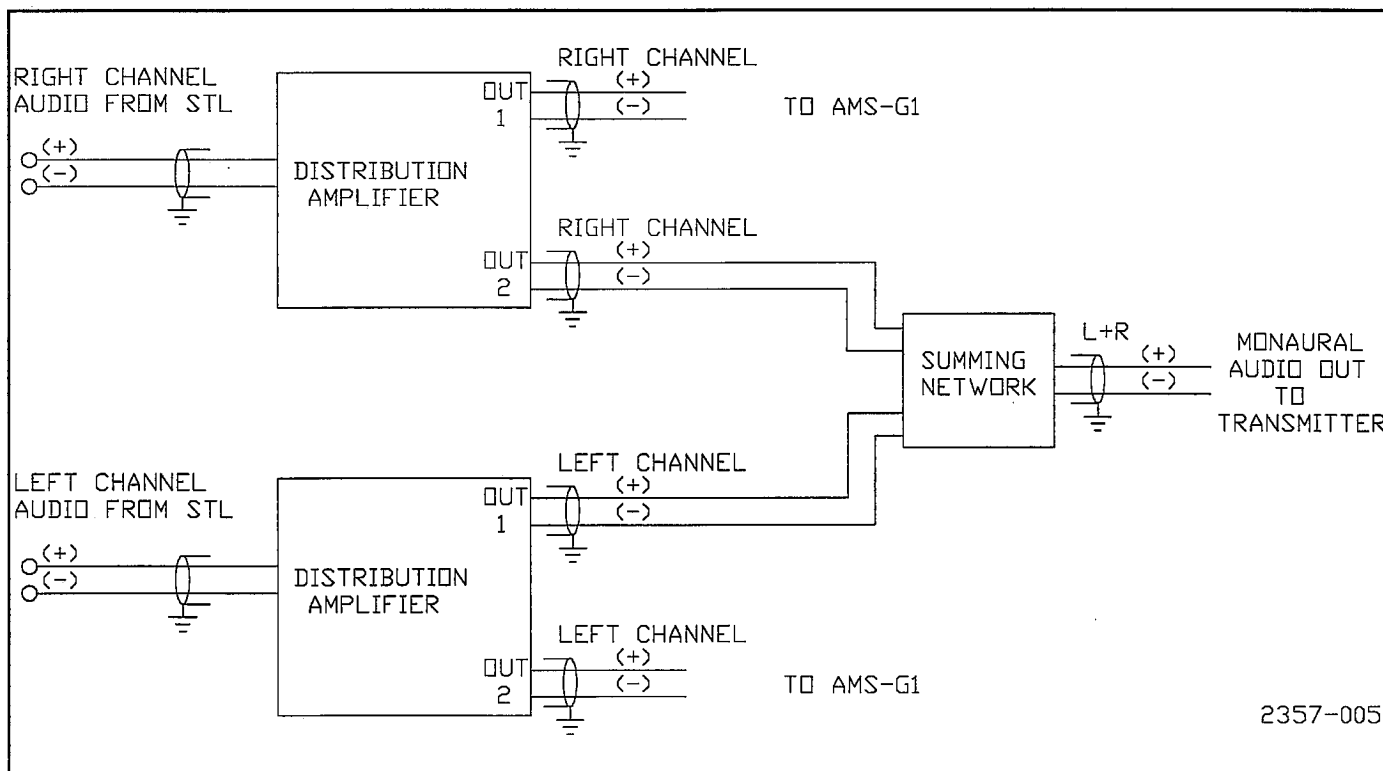

Figure 3-2. AMS-G1 Emergency Audio Bypass
- If a monaural matrixing system is not available (suggested system illustrated in figure 3-2) the choice of either running right channel or left channel audio from the audio source must be made at this time. Connect the audio cable removed from step 1 to either the left or right channel output of the audio source. Disconnect the remaining channel from the AMS-G1 to prevent damage to the audio source due to a possible short circuit.